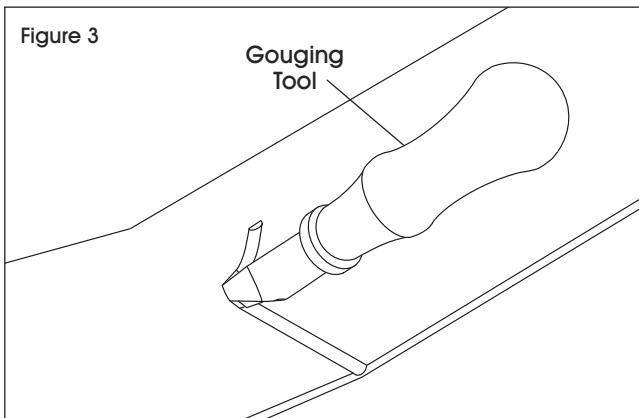

Figure 3
1. To form outside corners, fold base at the proper point and scribe the backside with a gouging tool. Remove no more than 20% of the base thickness. (See Figure 3)